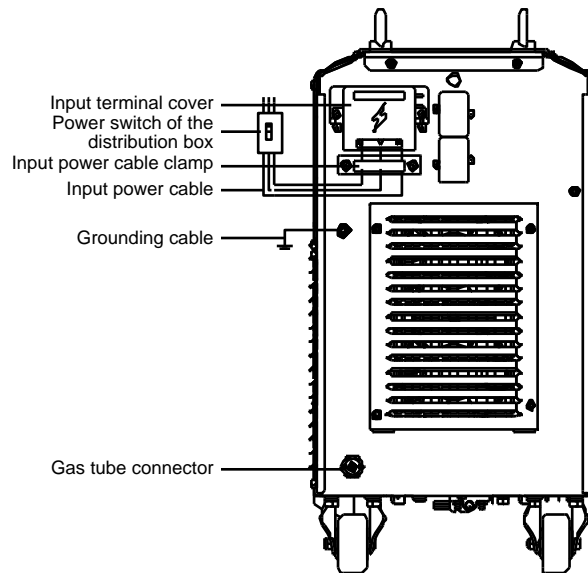

Figure 2-6 Schematic diagram of connecting the power cable on the power input side
2. Remove the input terminal cover. See Figure 2-6.
5. Connect the other end of the input power cable to the output terminal of the power switch of the distribution box. See Figure 2-6.